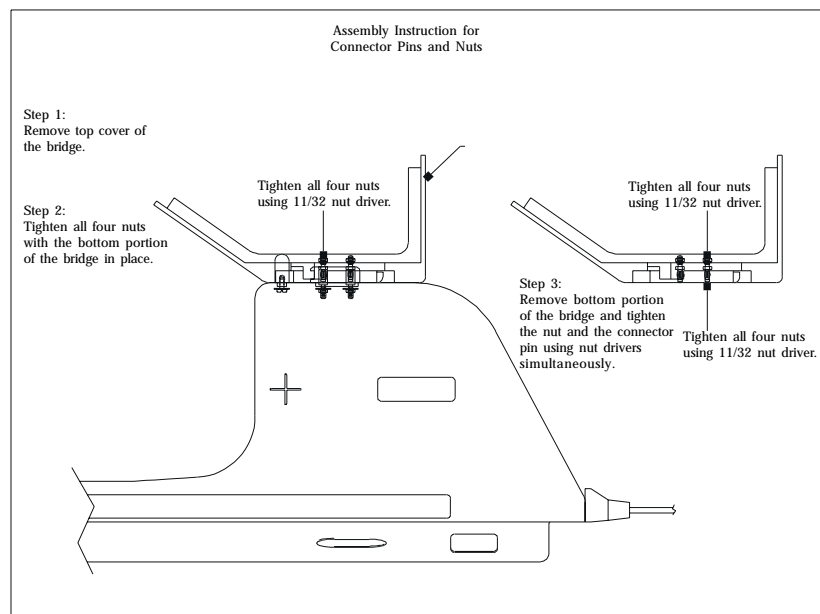

Figure 9: Replacing the anterior bridge assembly.
- The anterior bridge assembly is a field replaceable unit and can be simply interchanged with the original assembly. However, to ensure correct fit and ease of engagement of the anterior assembly to the coil, it is strongly recommended that the service engineer follow the following procedure (see *Figure 9* for guidance).